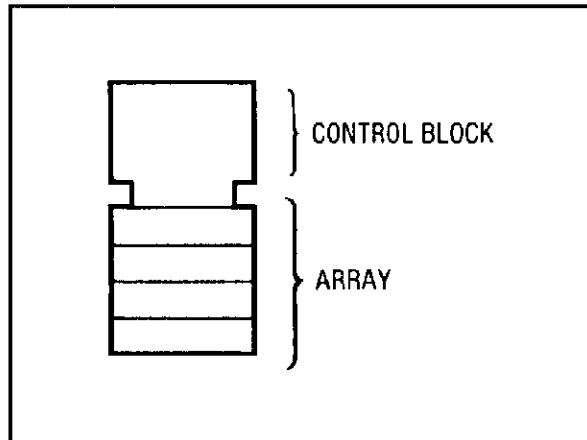

Figure 8-11. Common Control Block
**AND-OR Selector.** The selector control block simplifies the AND portion of a quad AND-OR select gate (see figure 8-11). When G1 is high, the data presented at the "1" inputs is gated through. When G2 is high, the data presented at the "2" inputs is gated through.